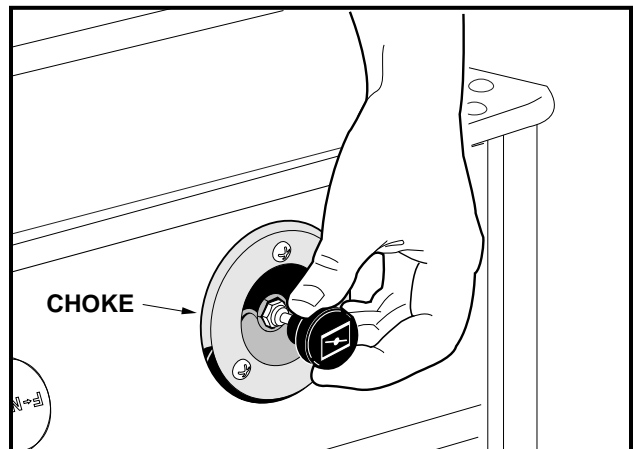

Figure 3-12 Choke Cable
- **Key-Start Vehicle:** Pull out the choke handle to activate the choke. Hold it during start up and release the handle when the engine begins to run smoothly (**Figure 3-12, Page 3-7**).